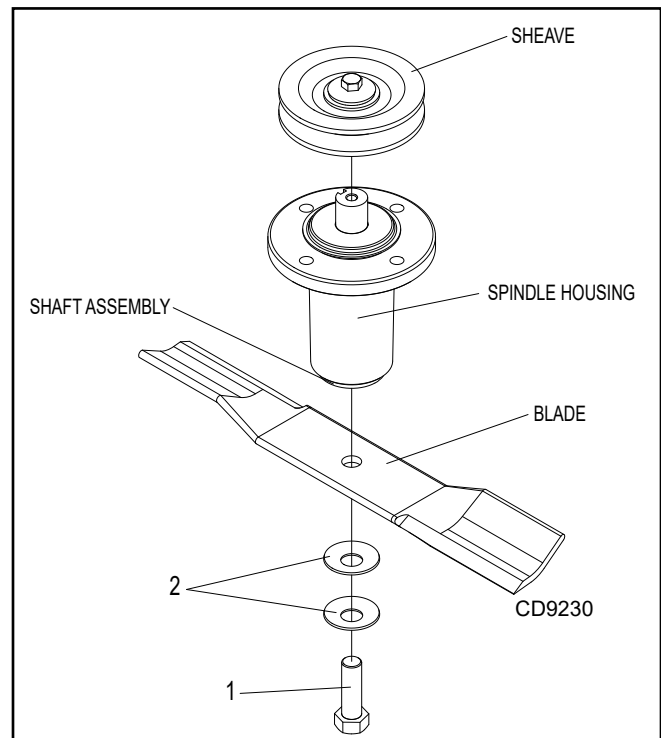

Figure 14. Blade and Spindle Assembly
1. Remove bolt (1), Figure 14, which has right hand threads.